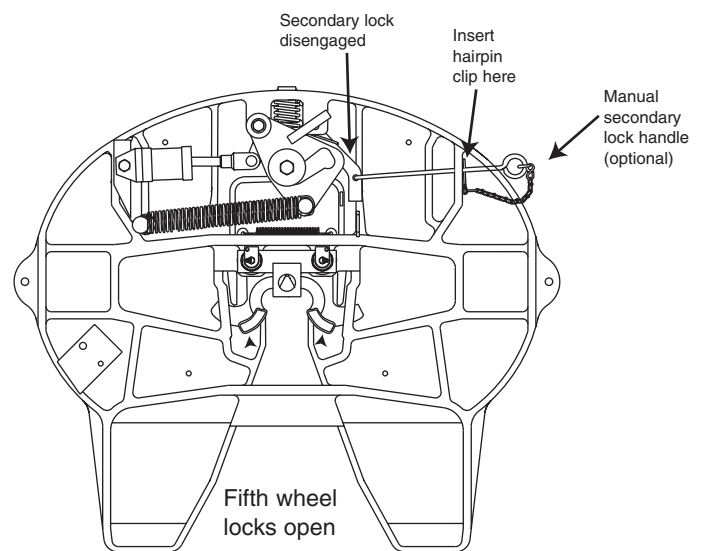

FIGURE 1
2. Make sure the secondary lock is disengaged. (See Figure 1).